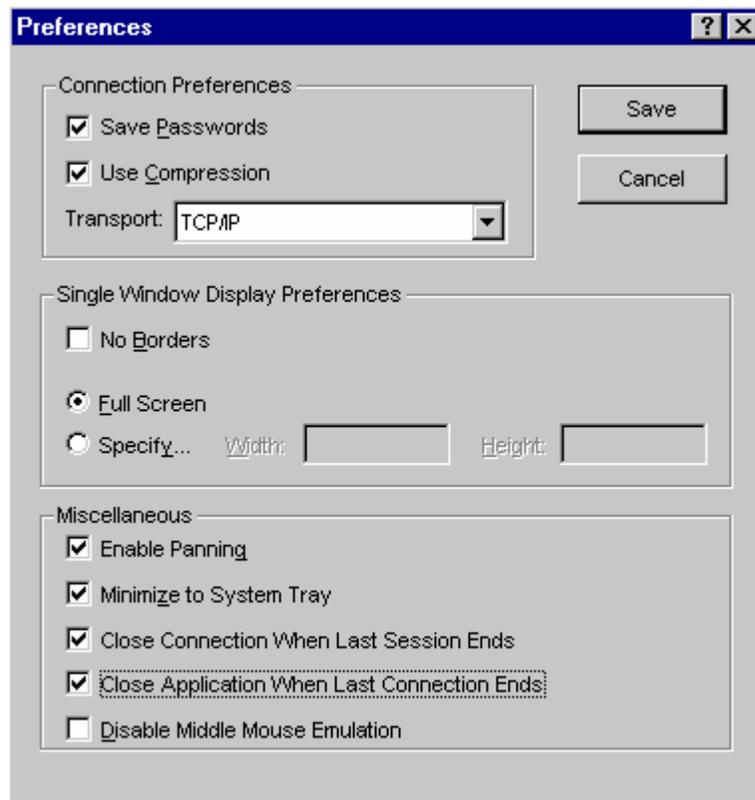

Figure 5
7. Select Options, Preferences and the preferences screen will appear. See Figure 5.